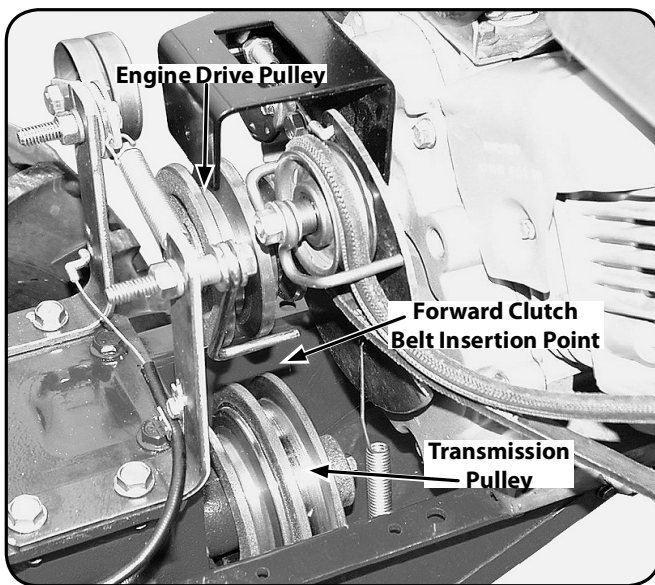

Figure 7-5
- From the front of the tiller, insert the forward clutch belt in between the bottom of the engine drive pulley and the top of the transmission pulley. See Fig. 7-5.
- Reinstall the reverse clutch belt. Insert the bottom of the belt into the frame, then pull down on the belt and roll it onto the large, forward-most groove of the transmission pulley. See Fig. 7-5.